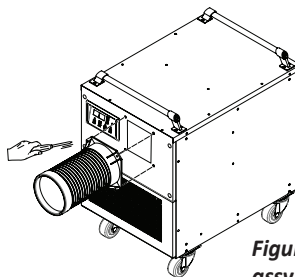

Figure 7 - cool air duct assembly attachment
3. Use screws (enclosed inside of box with cool air duct assembly) on the unit as shown in Figure 7.